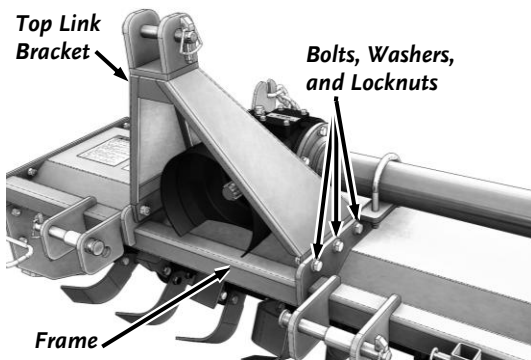

Figure 4
1. Position the Top Link Bracket onto the Frame and secure using six M12 x 40 Bolts, six M12 Flat Washers, and six M12 Locknuts (**Figure 4**). Tighten the Hardware using an 18mm Wrench for the Bolts and a 19mm Wrench for the Locknuts.